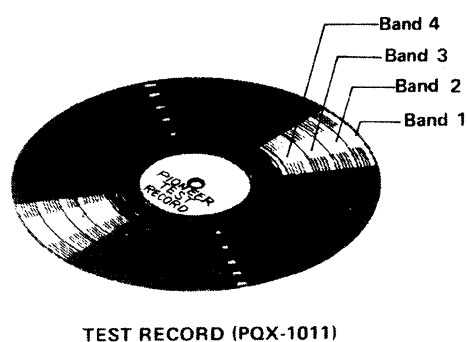

Fig. 16
2. Play the "Carrier (30kHz) Level Signal" band 4 on the furnished CD-4 test record (Fig. 16).